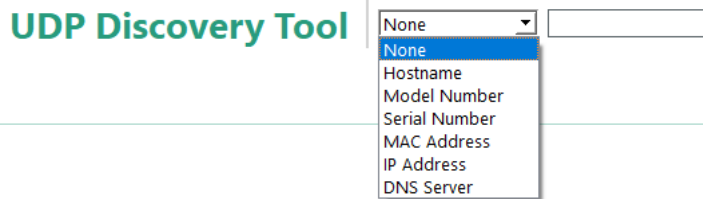

Figure 3. Filter List Box
1. Click the connection arrow to display the filter list box are shown in Figure 3.